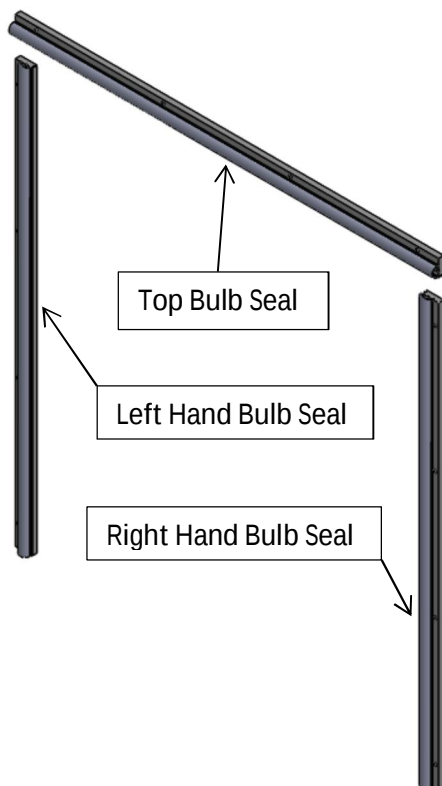
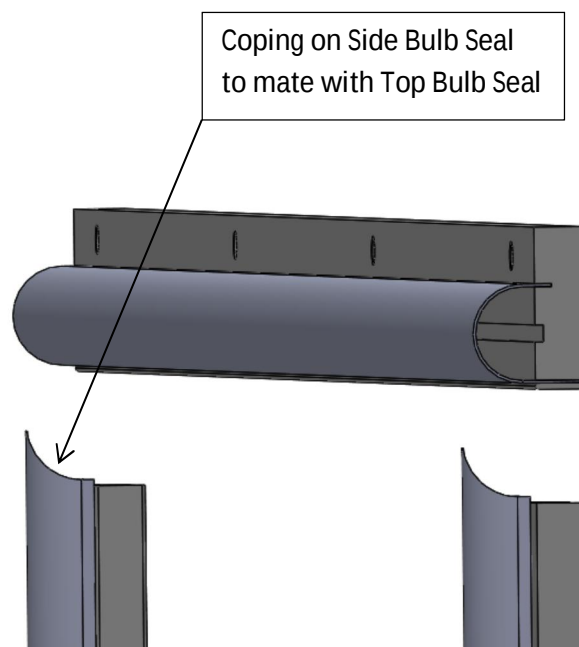

Figure 10
Figure 10a
1. Remove three (3) modular bulb seals pieces from head assembly crate. The bulb seal parts are location specific with a left side piece, a right side piece and a top piece (See Figure 10). The side pieces have a coped top to fit over the top bulb seal (See Figure 10a). The side bulb seals have pre-drilled bolting holes that go away from the opening.